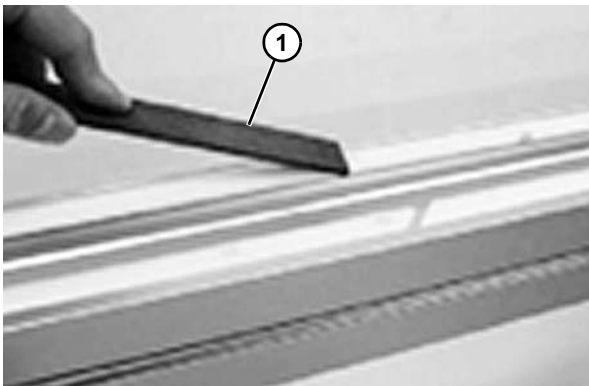

Figure 42
3. After the cut, make sure the slide rail surface is smooth and the nylon screws do not protrude over the slide rail surface. Use a file (**Figure 42, item 1**) to file off the protruding edge if uneven surface is found.